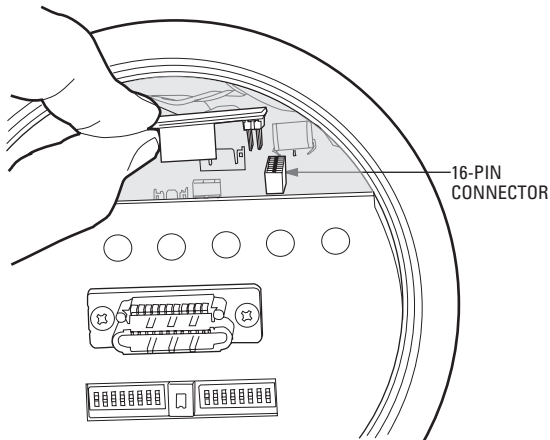

Figure 15. TXB-AD Board Installation
4. Install the TXB-AD board on the power module. Refer to Figure 15 and do the following: